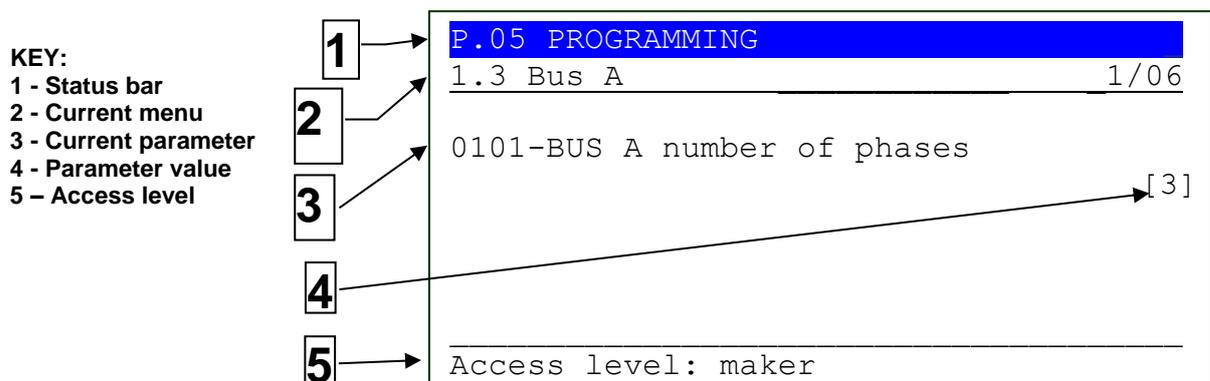

Fig. 6 - Display areas
The first line under the top status bar identifies the current menu (2) with the menu number and the relevant text. A pair of numbers is displayed on the right of this line (1/06 in the example in fig. 6). The first indicates which entry of the menu is selected or which page is displayed, the second indicates how many entries or pages can be displayed in the present menu/submenu.